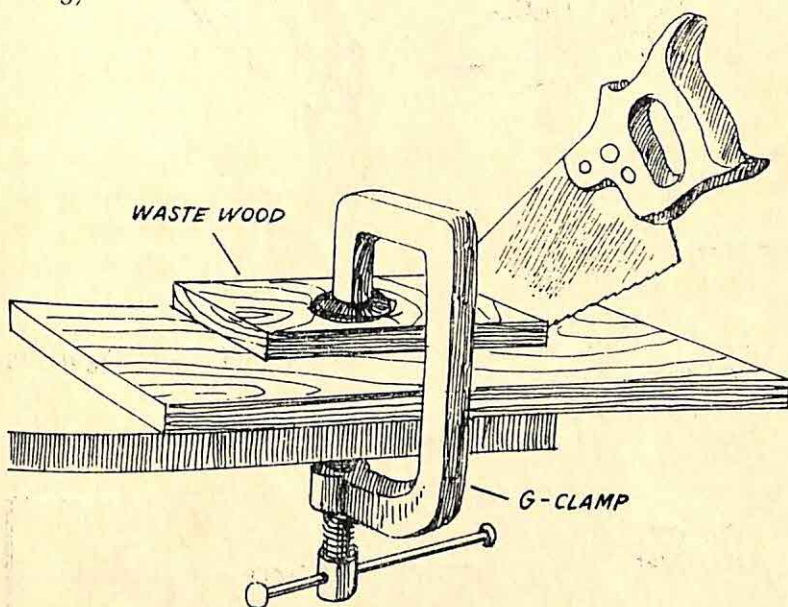

Figure 23
3. It is often best to clamp the piece of wood being cut, to the bench, using a 'G' clamp. An old piece of wood should be slipped between the metal of the clamp and the piece of wood being cut, to prevent marking the wood (see Figure 23).